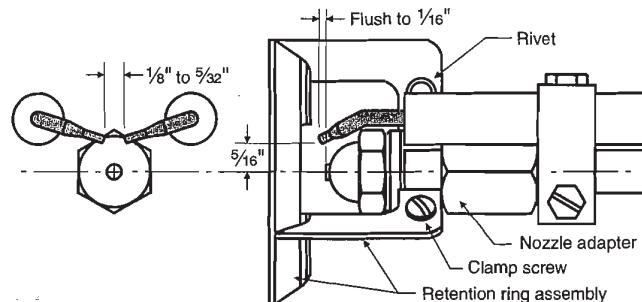

Figure 27: Electrode Settings
- e. Readjust air band to preliminary setting that corresponds to the nozzle installed, refer to Table 9B. Inspect and measure burner electrodes. Refer to Figure 27 for proper electrode setting. Readjust electrode setting to the proper dimensions if necessary.